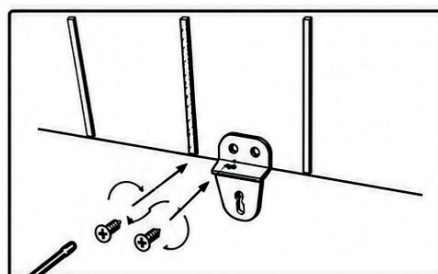

Fig8
4. Screw the two support brackets (A) (or one support bracket, depending on the model) to the rear part of the heater with the four screws (E) (or two screws, depending on the model). Figure 8
Note: The two brackets (A) are screwed to the holes located on the lower rear part of the heater, at both ends. (Figure 8).